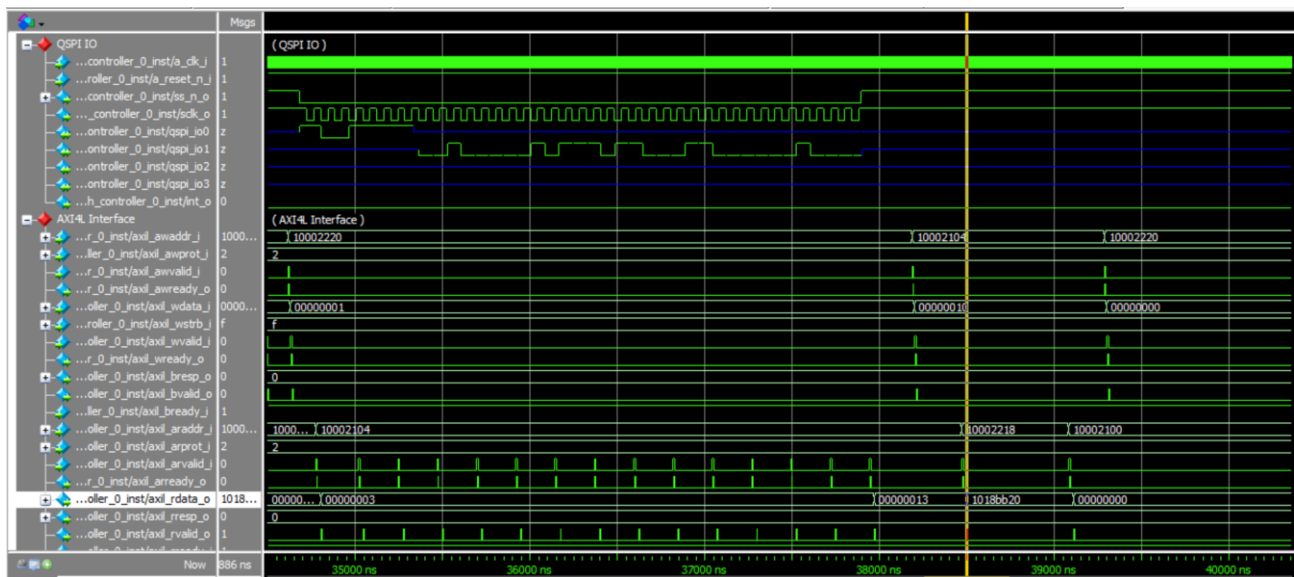

Figure 6.13. Simulation Waveform
- Note:** The simulation waveform shown in Figure 6.13 is a result where the generated main.c file in the C/C++ project is updated to perform an IP's operation.